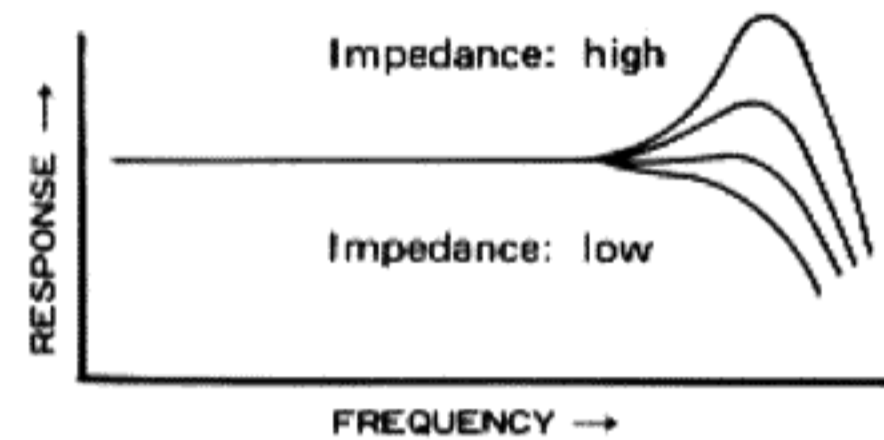
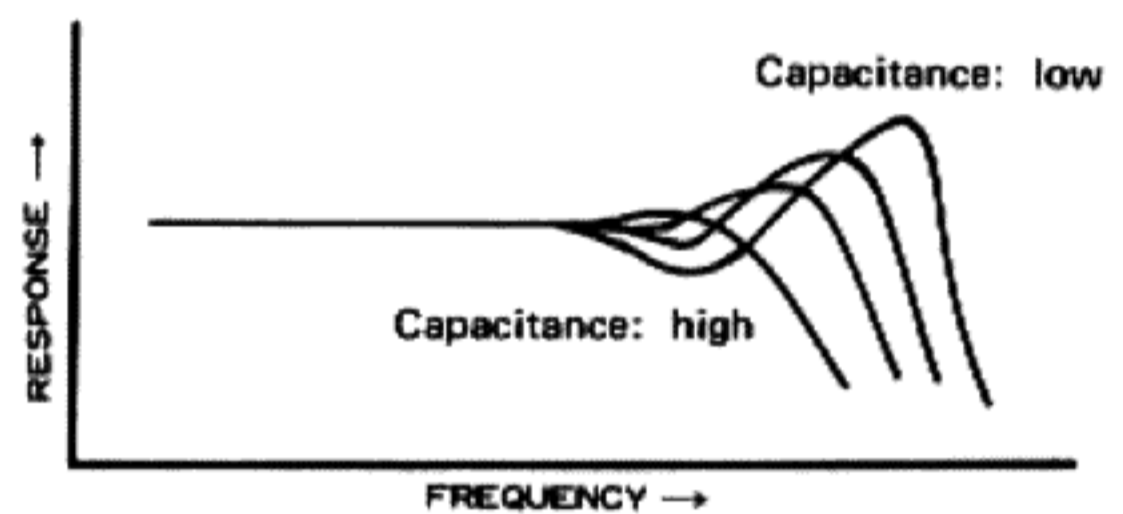

Fig. 12
Fig. 13
Typical moving magnet (MM) type cartridges possess resonance peaks at high frequencies, as shown in Fig. 12. The height of the peaks can be varied with the load resistance ( $k\Omega$ ) switch, with higher peaks obtained at higher switch settings. Resonance frequency (center of peak frequency) can also be varied by changing the load capacitance (pF) switch. Higher capacitance values produce lower resonance frequency and higher peaks (Fig. 13). By employing both CARTRIDGE LOAD switches, various high frequency characteristics can be obtained. Switch operations are as follows.
Since the example in Fig. 13 shows typical high end frequency curves, adjust both switches for the desired response while listening to the record playback.